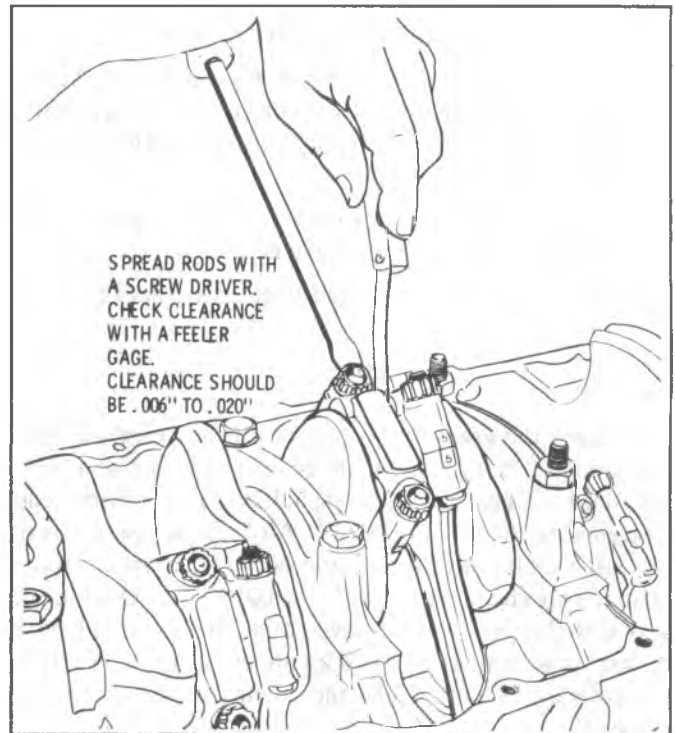

Fig. 6A6-69--Connecting Rod Side Clearance
5. Clean oil from crankpin bearing cap, connecting rod and outer and inner surface of bearing inserts. Position insert so that tang is properly aligned with notch in rod and cap. (Fig. 6A6-67).
7. Remove bearing cap and determine bearing clearances by comparing the width of the flattened plastic gaging material at its widest point with the graduation on the container. The number within the graduation on the envelope indicates the clearance in thousandths of an inch. If this clearance is greater than .0035", replace the bearing and recheck clearance with plastic gaging material. Lubricate bearing with engine oil before installation. Repeat Steps 2 through 8 on remaining connecting rod bearings. All rods must be connected to their crankpins when rotating the crankshaft to prevent engine damage. Bearings are identified as shown in Fig. 6A6-68.